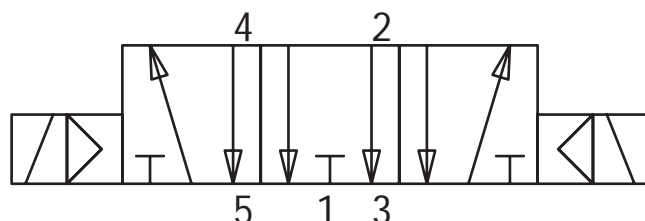
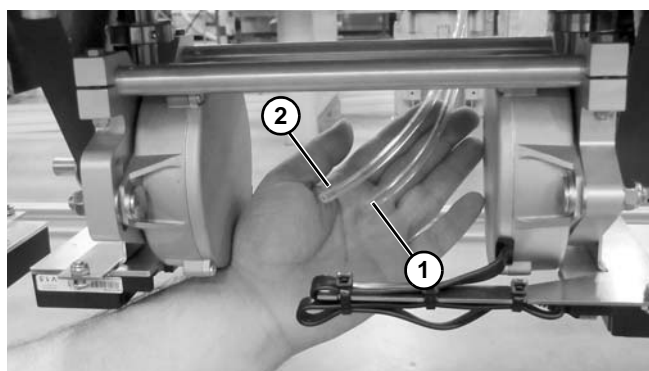

Figure 33
Figure 34
Dorner recommends using a 5 port, 3 way, exhaust center solenoid valve (**Figure 33**) to operate unit.
1. Connect port 4 (**Figure 33**) of the 5 port, 3 way valve to the lower port (**Figure 34, item 1**) on the lift. Dorner fittings accept 1/4" outside diameter tubing standard.
2. Connect port 2 (**Figure 33**) of the 5 port, 3 way valve to the top port (**Figure 34, item 2**) on the lift. Dorner fittings accept 1/4" outside diameter tubing standard.